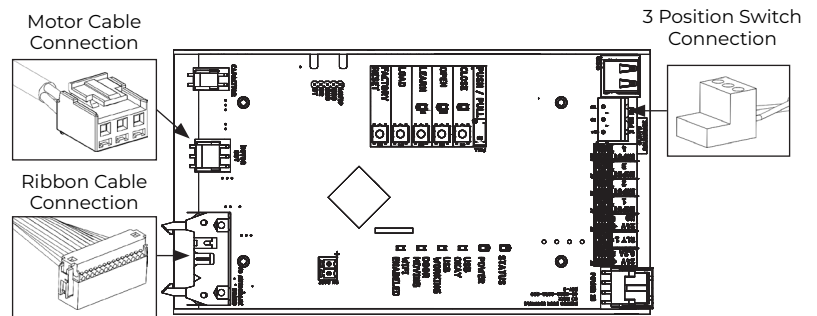

Figure 11
4. Plug motor and ribbon cables from closer body into power supply. (Figure 11)
5. Connect switch to power supply. (Figure 11)